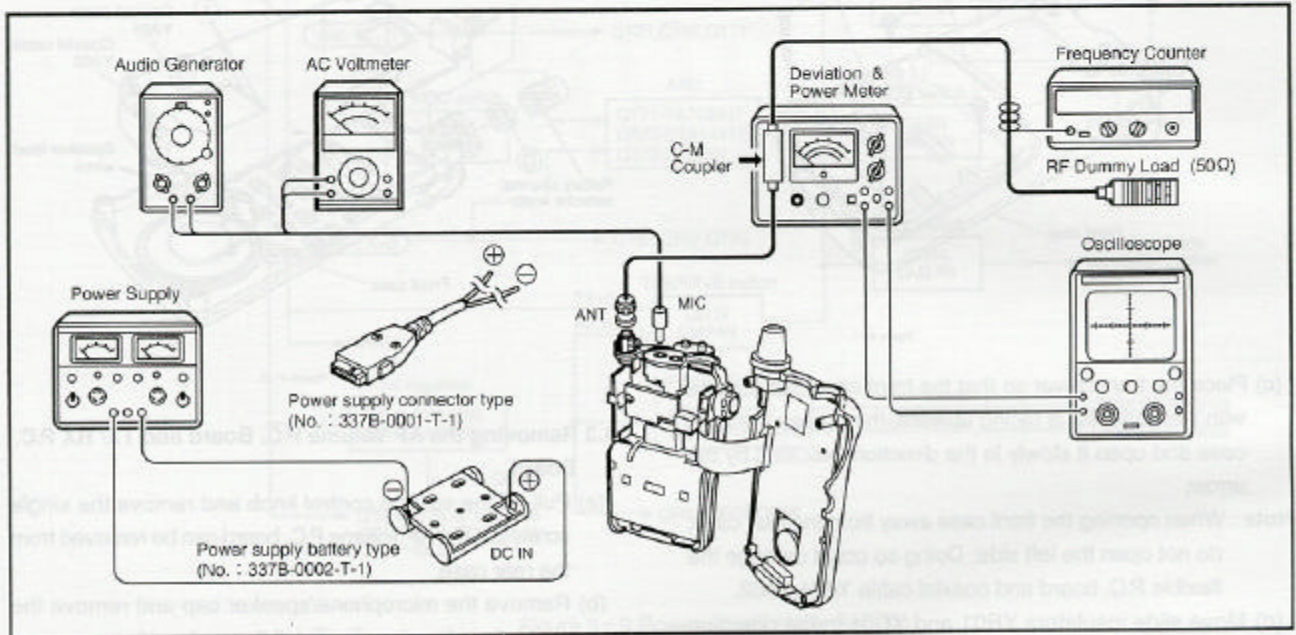

Figure 5-1 Transmission connection diagram
(1) UHF band
- (a) Apply an 8.4 V voltage from interface jack YD02 to the transceiver. (Use the power supply connector type. See figure 5-1)
(2) VHF band